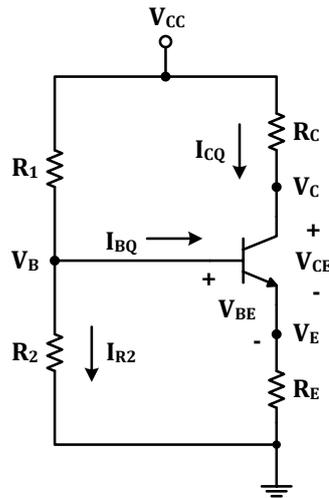

Figure P2.1
Figure P2.1 is a voltage divider circuit. Referring to Figure P2.1, produce the design equations for each resistor (R_1 , R_2 , R_C and R_E) based on the following information:
2. Construct the circuit (Figure P2.1) and measure the Q-point (V_{CEQ} , I_{CQ}). Compare your answers to the calculated values and discuss.